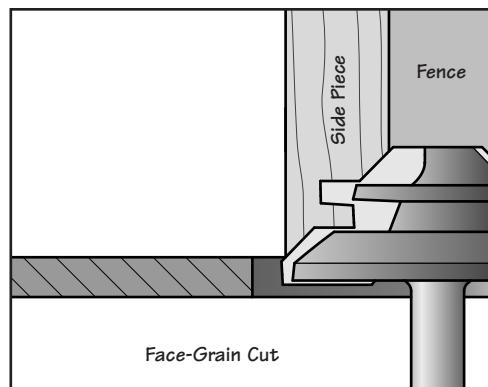

Figure 6: Face-grain cut.
6. Using the trial pieces, create an end-grain and face-grain cut representing the front/back and sides of the drawer, respectively. Note that each piece is routed with the fence in the same location, as shown in **Figure 6**.